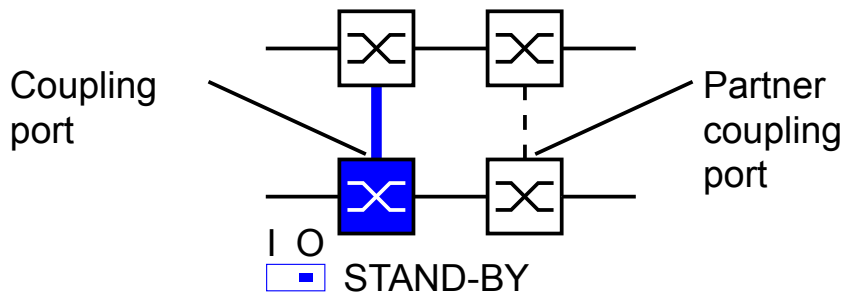

Figure 45: Two-Switch coupling
- Select two-Switch main coupling (see fig. 45).